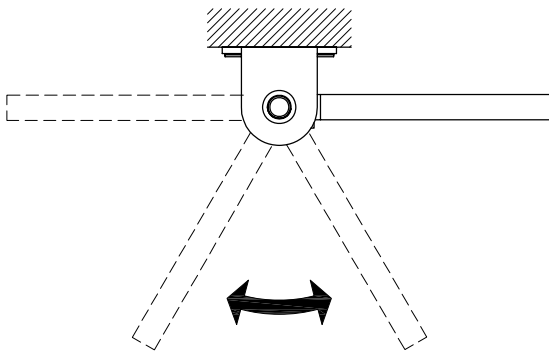

fig. 7
- b. Swing door panel back and forth to make sure door is settled (fig. 7).